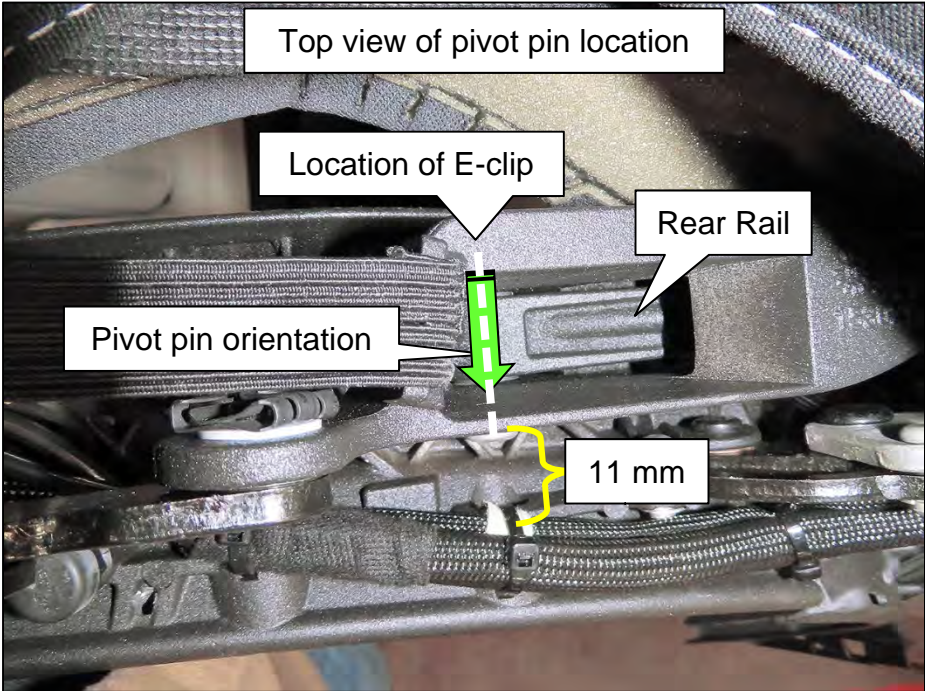

Figure 179
192. Remove the E-clip from the Soft Top Linkage Assembly to Rear Rail pivot pin (pivot pin), where shown in Figure 179.
- E-clip hidden in Figure 179.